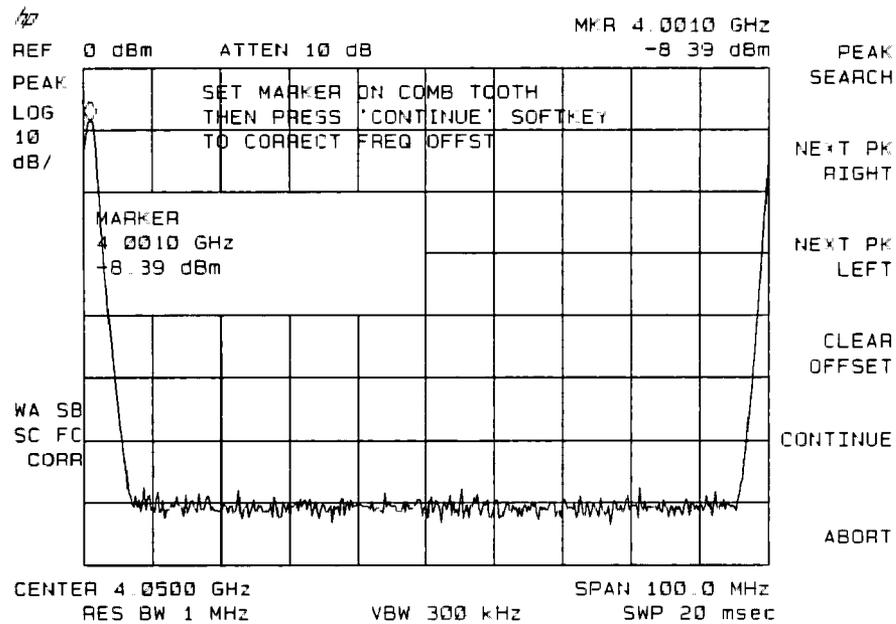

Figure 6-26. Using the Correct to Comb Function
3. Press **AUX CTRL**, **COMB GEN ON OFF (ON)**, **CORRECT TO COMB**. The marker is activated and the menu for the correct to comb routine is displayed. The message **SET MARKER ON COMB TOOTH THEN PRESS CONTINUE SOFTKEY TO CORRECT FREQ OFFST** is displayed. See Figure 6-26.